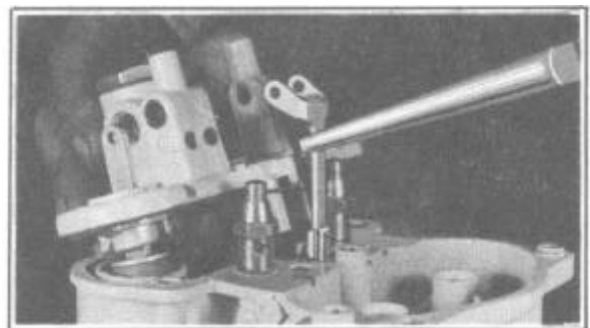

FIGURE 74
16. Install anti-percolator arm and screw assembly, pump operating lever, counter-shaft assembly and pump arm and collar assembly, Figure 74.